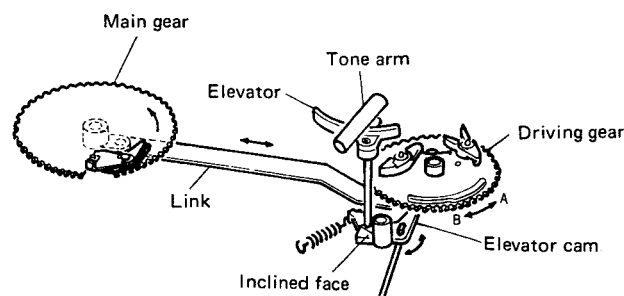
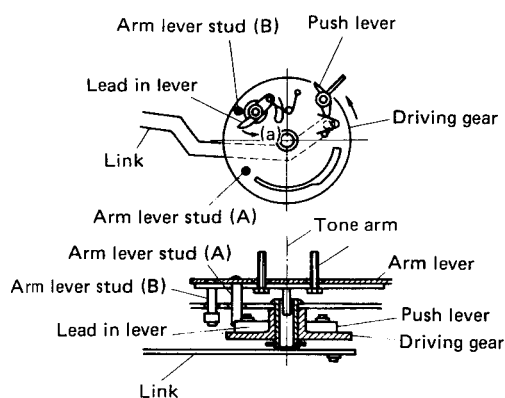

Fig. 6
Fig. 7
When the starting cycle begins and the main gear rotates, the driving gear is turned reciprocally by the link to reciprocate the elevator cam, as shown in Fig. 6.
In Fig. 7, the lead-in lever is moved in the direction (a) by the counterclockwise rotation (b) of the driving gear, as shown in Fig. 6. As a result, the lead-in lever passes the arm lever stud (A) without touching it. Therefore, the arm lever does not move. During the next process shown in Fig. 8, the lead-in lever strikes against the reset plate and is pushed back in the direction (a). When the driving gear returns in the clockwise direction (B), this time the lead-in lever pushes the arm lever stud (B), and the arm lever stud is moved in the direction of the arrow, as shown in Fig. 9. This finishes the final stage of the lead-in operation.